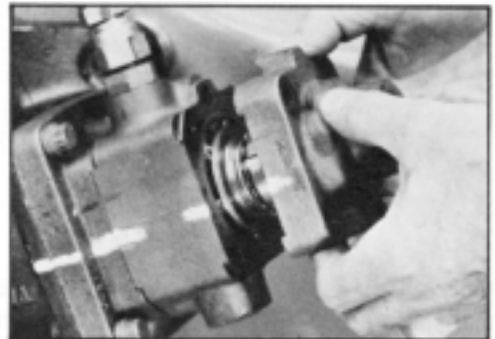

Figure 29
- 3.4 Carefully remove upper cover (7) assembly from worm shaft (23) while maintaining the valve assembly (15) position. SEE FIGURE 29.